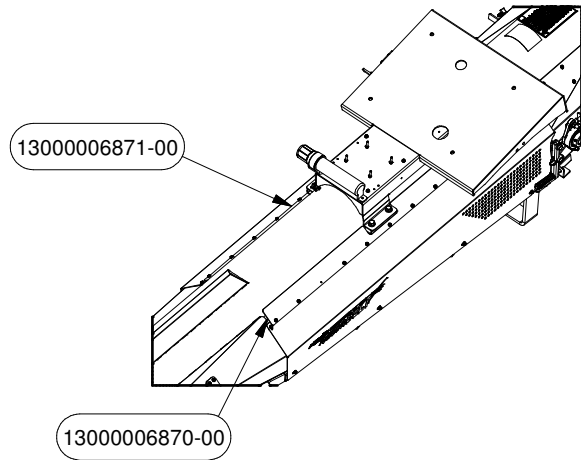

FIGURE 2
2. Place the Covers PN# 5827 and PN# 5829 with the Rubbers PN# 6871 and 6870 (from Deutz Hardware Box PN# 6918) to the Intake using Self Tapping Screws and flat washers as shown in Figure 2. Fasteners can be found in Bolt Bag PN# 6068 in Hardware Box PN# 6913.